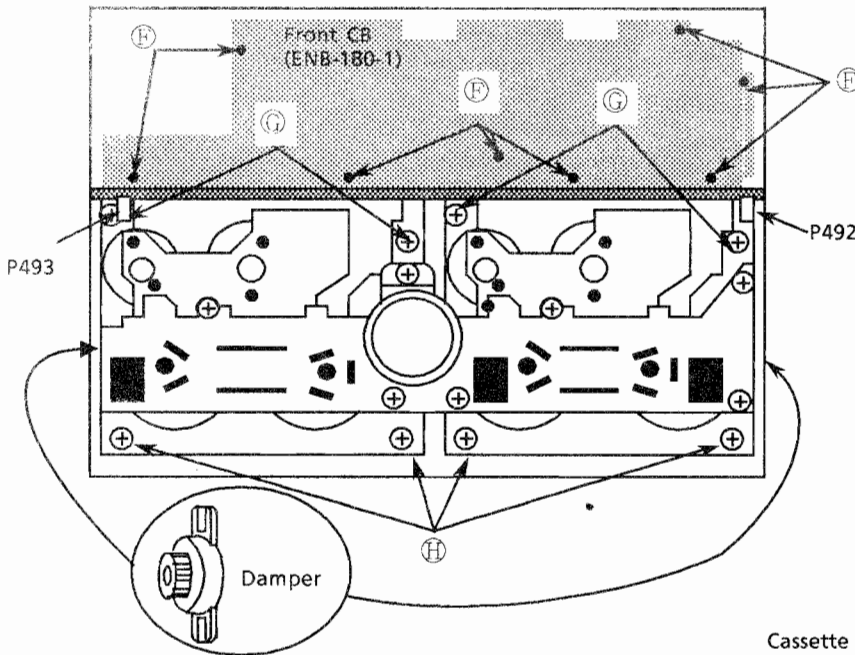

Figure5 Back of the front panel assembly
3. Disconnect the connectors P492, P493 on the deck control circuit board (Figure 5).
4. Remove the 8 screws ③ and ④ fixing the assembly.